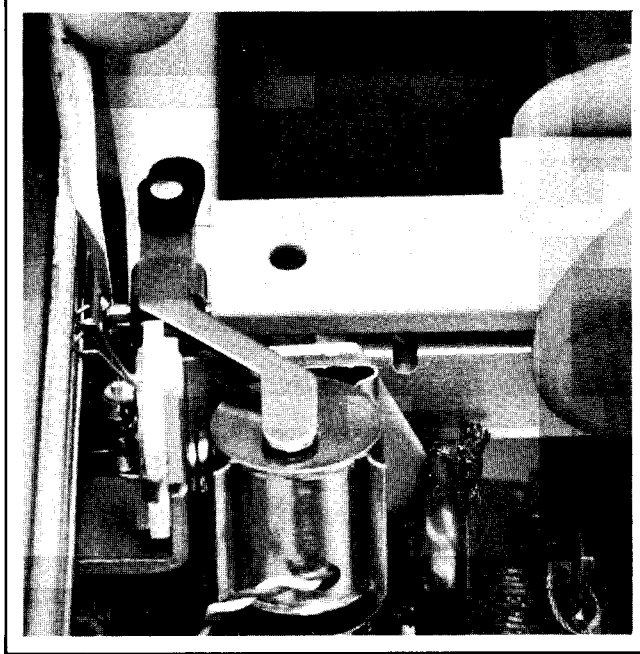

FIGURE 3-4. Y SLIDEWIRE COVER REMOVAL
d. Slidewire cover on the Y arm may be removed by pushing back on upper cover support with thin-bladed screwdriver (see Figure 3-4). This disengages cover and fully exposes Y axis slidewire limit switch and drive components.
- d. Release Y slidewire cover and remove from arm (see Figure 3-4).